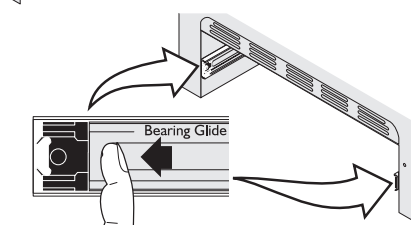

Figure 2
- Pull the bearing glides to the front of the chassis glide** (see Figure 2).